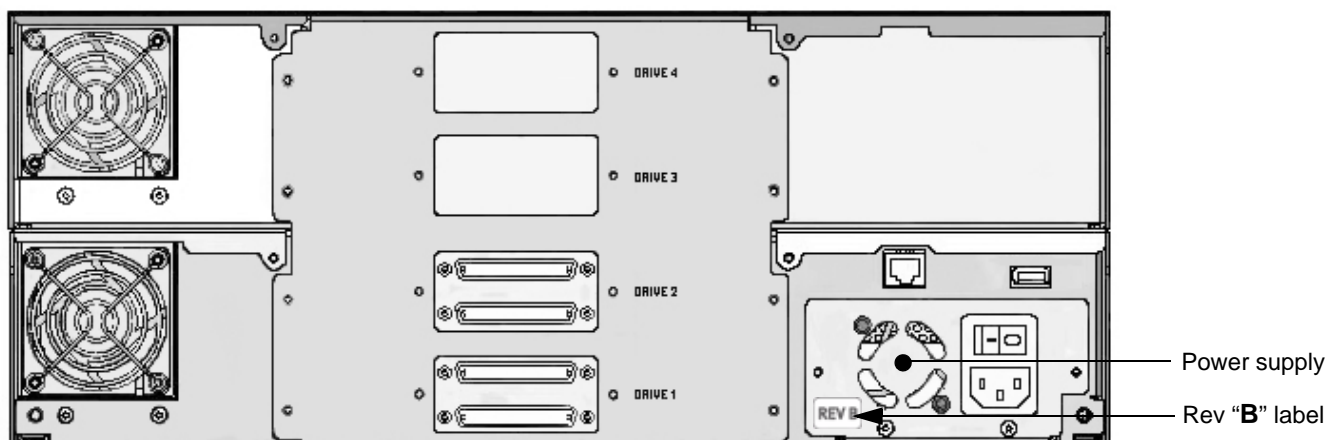

Figure 3 Rev “B” power supply label
Notes: The Magnum 448 library shipped with either a Rev "A" or a Rev "B" power supply installed. Refer to the instructions appropriate for your configuration. Rev B power supplies have a Rev B label, as shown in Figure 3.
- ▶ Revision “B” power supply (Rev “B” label affixed—see Figure 3 below)